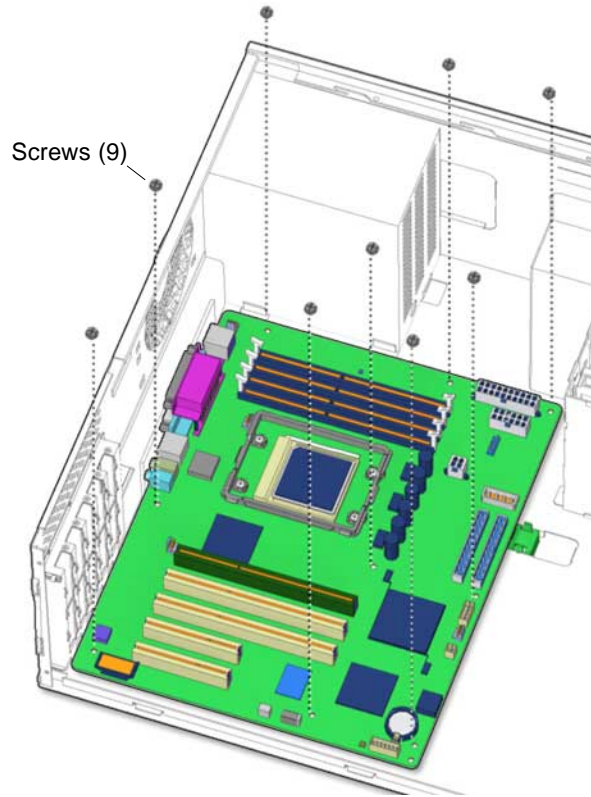

FIGURE 11-45 Removing the Motherboard Fastening Screws
Use the Phillips screwdriver to remove the nine (9) screws which fasten the motherboard to the chassis. See FIGURE 11-45. Set the screws aside in a container.